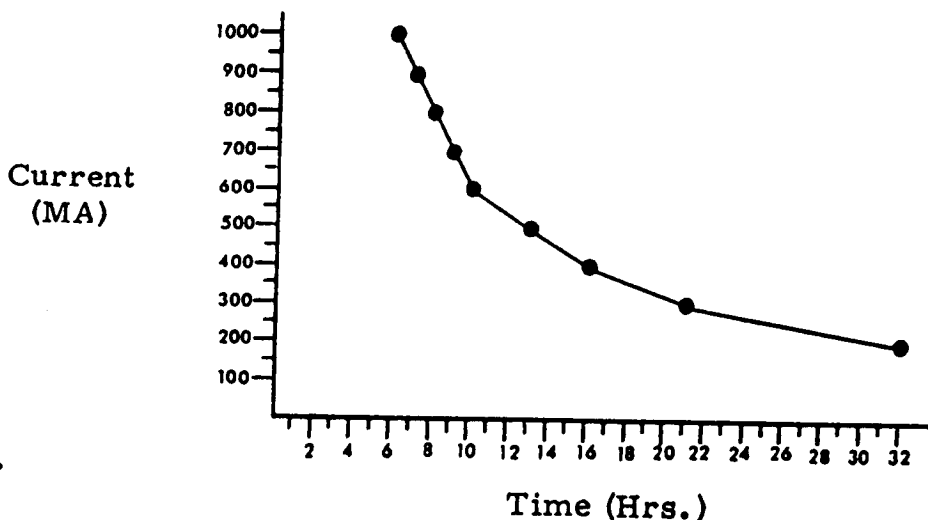

Figure 3.
To determine the current load of a 2520 system, add all the current drains of all the remote modules as shown in Table 1. The standby time can then be calculated from Figure 3 which shows the expected hours of standby for various current loads using one (1) 4 amp hour 12 volt battery (Model 6812).
1. Install all normally-open and normally-closed instant circuit sensors (see Figure 3).	<ol style="list-style-type: none"> <li>a. Disarm the system.</li> <li>b. If using normally-closed sensors in the instant circuit, remove the jumper from between terminals 7 and 8.</li> </ol>